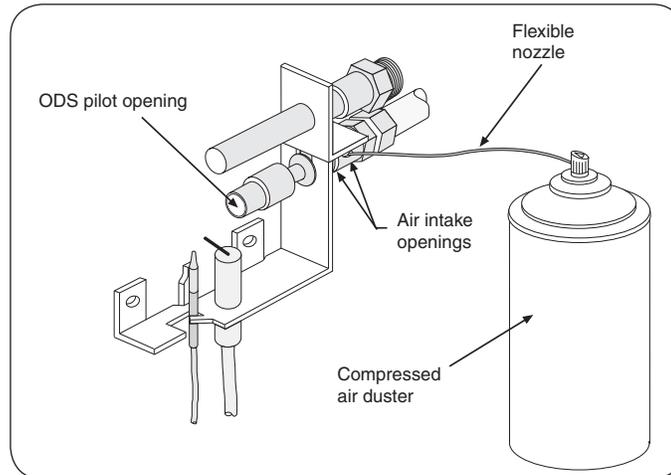

Fig. 21-1
4. If the ODS pilot flame does not burn as indicated in the instructions, extinguish the ODS pilot by turning the valve to the full **OFF** position. Using a compressed air duster (commonly available at computer, electronic or office supply stores), insert the flexible nozzle through either air intake openings, insuring that the nozzle is pointed toward the ODS pilot opening (see Fig. 21-1). Blow air through both air intake openings to clear out any debris that may be in the system.
6. Insert the flexible nozzle of the compressed air duster and blow air into the input end of the ODS pilot gas line to remove any blockages (see Fig. 21-1). **Do not blow air directly into the ODS pilot opening. Blow air in the direction of the gas flow.**